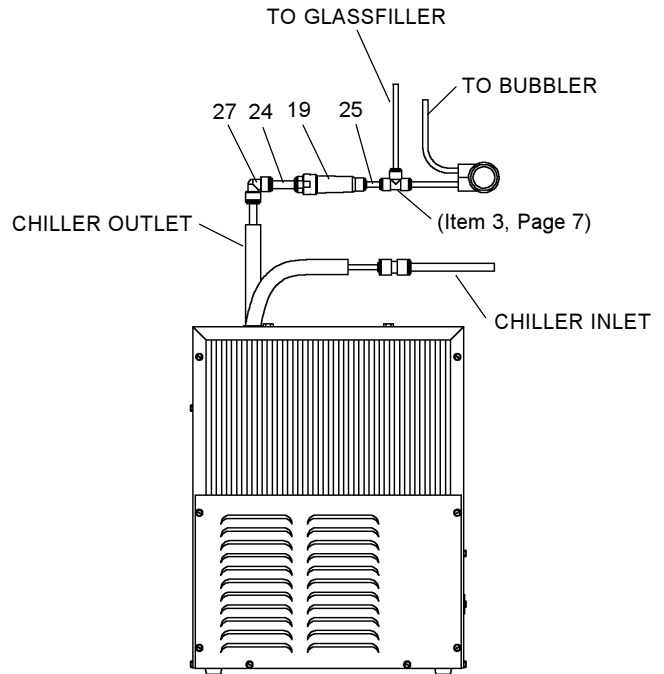

FIG. 7A
9. GF Model Only. Connect glass filler line to outlet on tee located between strainer and regulator valve assembly. (See Fig. 7A & 8A)